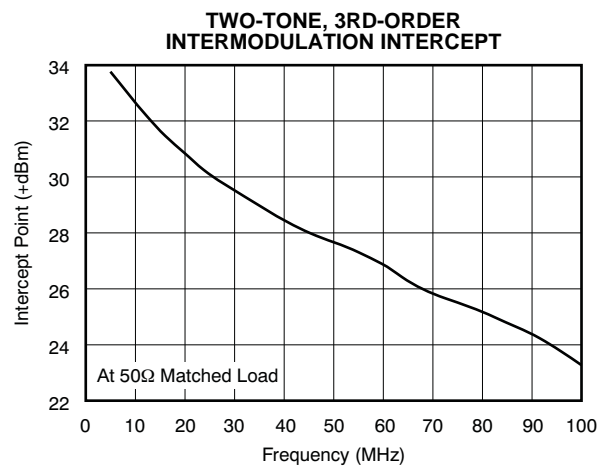
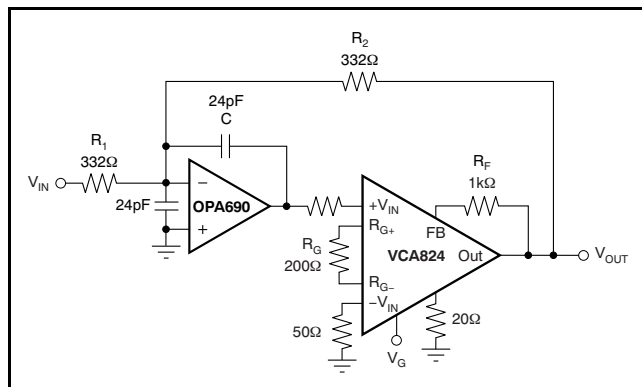

Figure 65.
Figure 84. Voltage-Control Low-Pass Filter
In the circuit of Figure 84, the VCA824 serves as the variable-gain element of a voltage-controlled low-pass filter. This section discusses how this implementation expands the circuit voltage swing capability over that normally achieved with the equivalent multiplier implementation. The circuit control voltage, V_G , is calculated as according to the simplified relationship described in Equation 4:
Because the VCA824 is most linear in the midrange, the median of the adjustable pole should be set at $V_G = 0V$ (see Figure 24, Figure 44, Figure 65, and Equation 6). Selecting $R_1 = R_2 = 332\Omega$, and targeting a median frequency of 10MHz, the capacitance (C) is 24pF. Because the OPA690 was selected for the circuit of Figure 84, and in order to limit peaking in the OPA690 frequency response, a capacitor equal to C was added on the inverting mode to ground. This architecture has the effect of setting the high-frequency noise gain of the OPA690 to +2V/V, ensuring stability and providing flat frequency response.